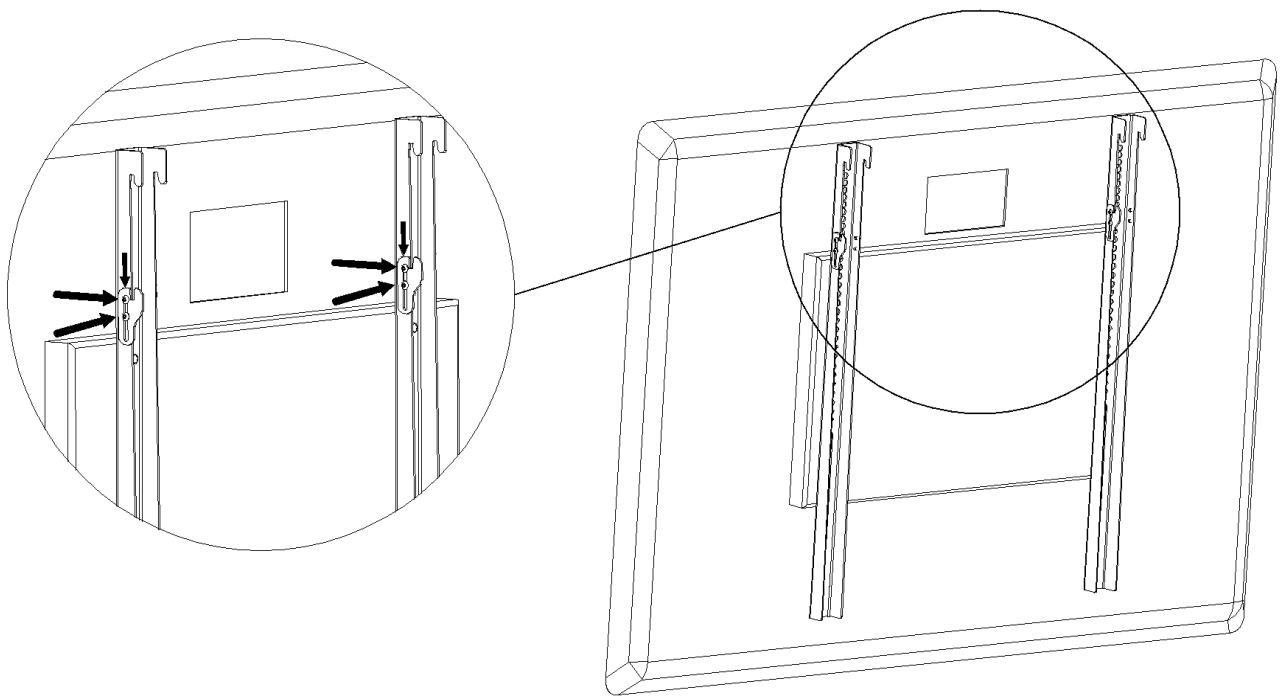

Fig.7
6. Using the screws supplied by the TV producer, attach the vertical beams to the back of the TV. The beams should be approx. 2 cm below the upper edge of the screen Fig.7